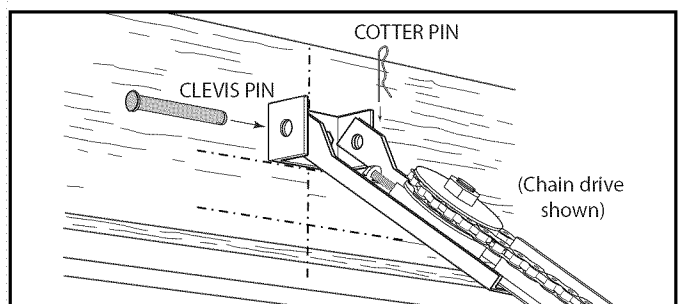

FIG. 2-5 Rail mounting to header bracket.
- Support power head on step-ladder to prevent interference with header mounted (torsion) spring (**Fig. 2-5**).